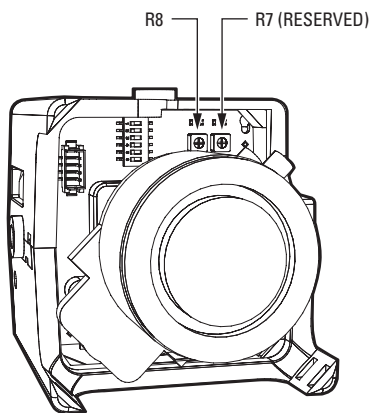

Figure 11. Vertical Phase Adjustment
2. Select the camera to synchronize. Use the phase adjustment control (R8) to synchronize the camera to the reference camera (refer to Figure 11). Turn R8 clockwise to increase vertical phase; turn R8 counterclockwise to decrease vertical phase.